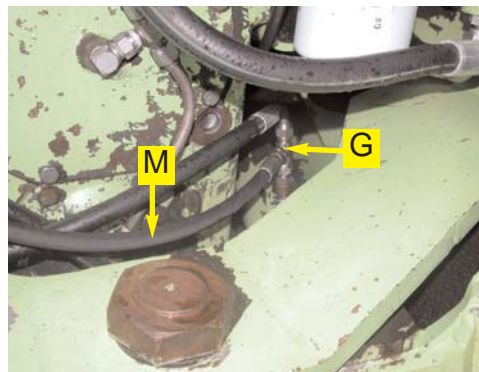

Figure 6c. Steering hose at right steering cylinder (PT models).
- c. Install the longer hose (**M**) in the right steering cylinder on the PT models. (Figure 6c.)